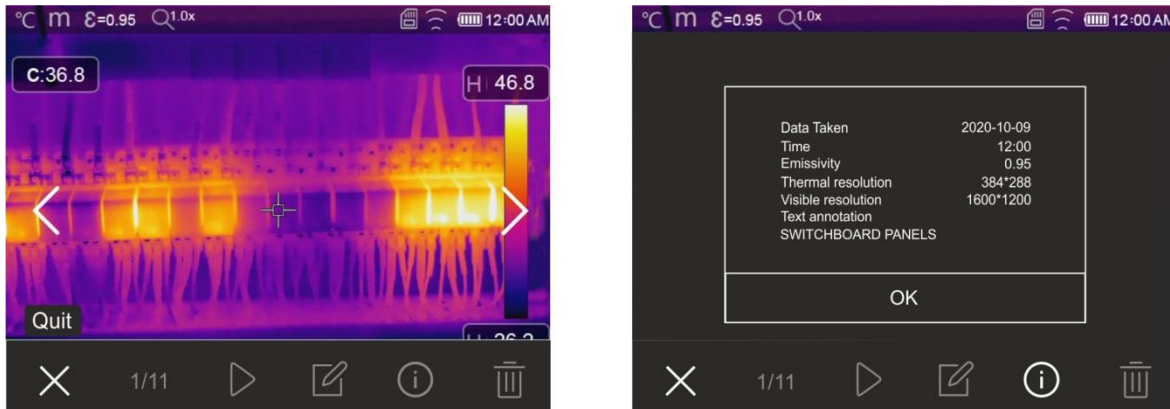

Fig. 52: Recalling on the display the images saved
1. Press key to enter the gallery of the images and videos saved in the instrument's memory or on the micro SD card. The following screen in Fig. 52 – left side is shown on the display
3. Touch the icon “” to open the section containing the information about the saved image. The screen in Fig. 52 – right side appears on the display.